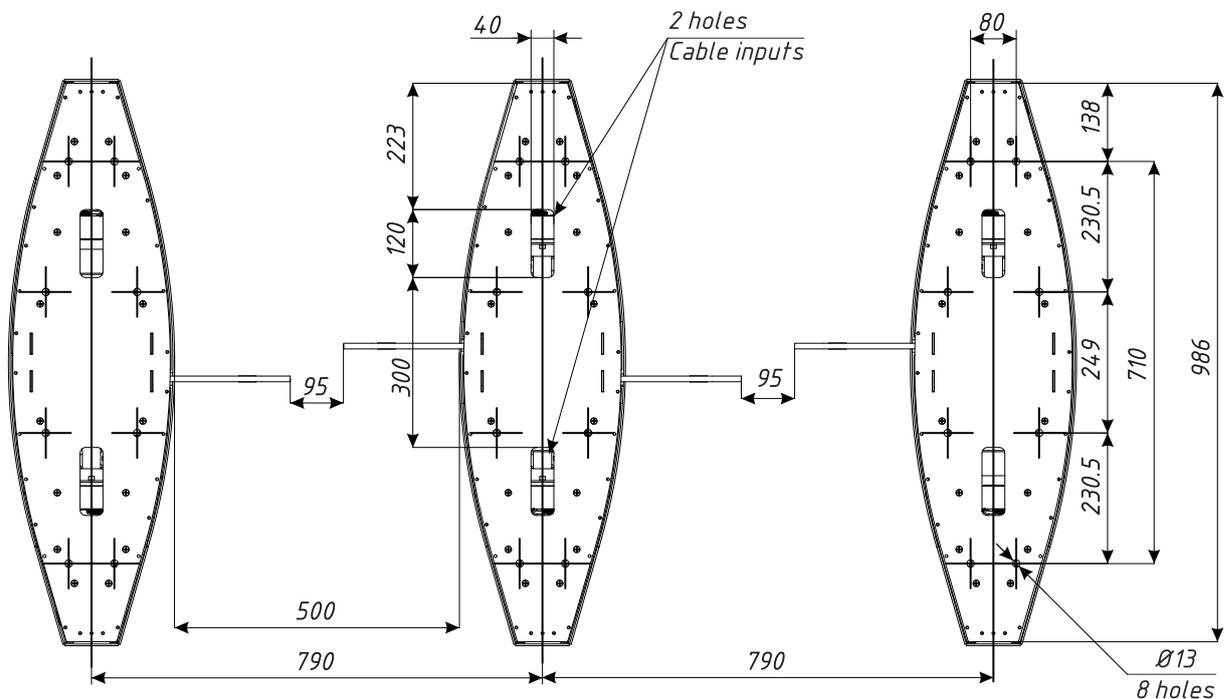

Fig. 13 – Installation dimensions of the turnstile set «JETPAN-1» and «JETPAN-2»
- 5) The turnstile fixation holes to be marked on the site surface according to Figure 13 (For the turnstile with 500 mm access ways). The turnstile itself can be used as a template, when installed upright at the installation site.
4. - align fixation holes at the turnstile bottom plate with the prepared surface holes according to the marking shown in Fig.13;